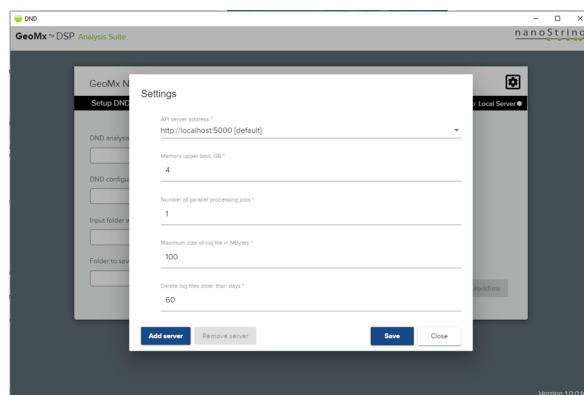

Figure 33: Adding a server
- Once installed, add the server in the UI by clicking **new server**, entering the Public IPv4 address of the server (four integers separated by periods followed by **:5000**), then clicking **Add** (see Figure 33).